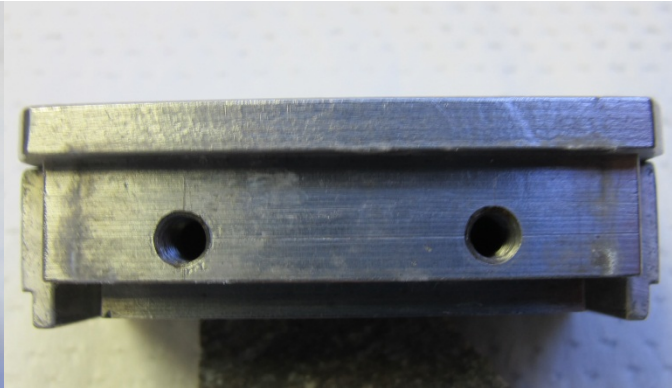

Figure 6
- b. Width wise: both sides should have the groove facing out (Fig. 6).